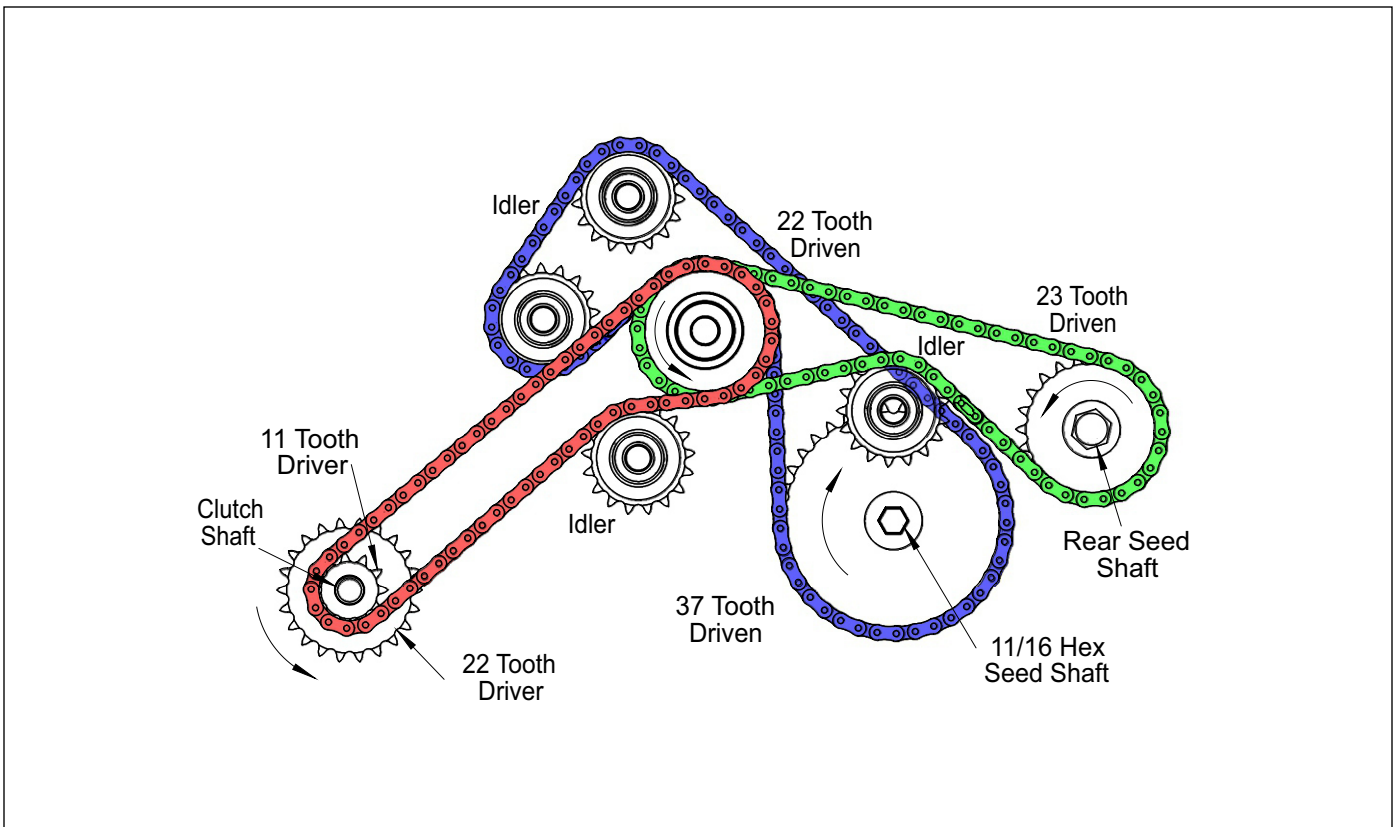

Figure 3-15: Front and Rear Seed Box Transmission Drive (After 01/2020)
5. Turn 11/16 hex Seed Shaft on the Transmission Clockwise(CW). See Figure 3-15.